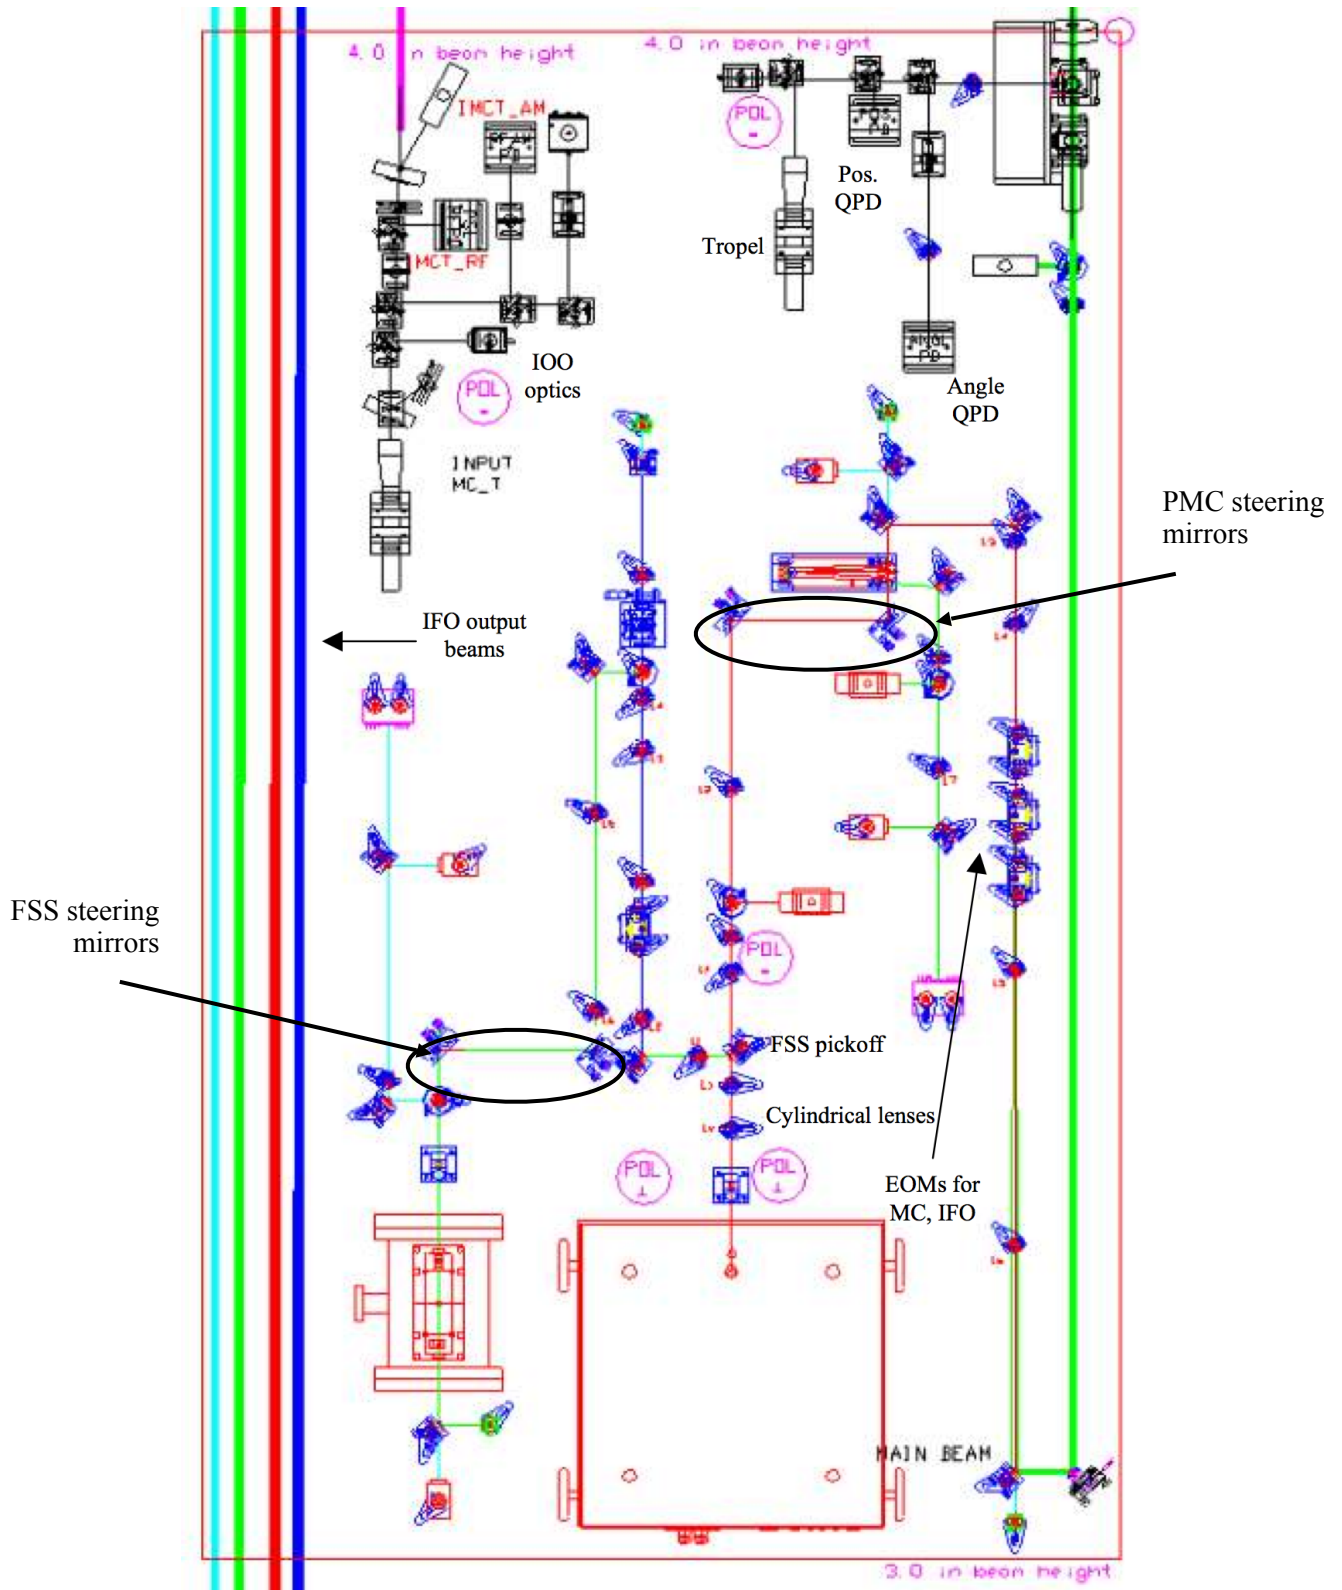

Figure 3-1: Layout of 40-meter PSL table back to Step 2 (starting the chiller), or consult a laser expert.
The 40-meter PSL is based on the same Nd:YAG Lightwave 1064 mm laser used at the main LIGO sites. The 10'x6' PSL table is located in the blue enclosure at the northwest corner of the IFO hall, with the layout shown in Figure 3-1. The 10W beam is brought to a height of three inches above the table by a periscope, and passed through a pair of cylindrical lenses to correct astigmatism. A pickoff mirror then redirects 70mW of beam to the frequency stabilization path. Pairs of mode-matching lenses are used to focus the beam into the major optical elements in each path.
The low-power beam (left half of Figure 3-1) is sent through a Pockels cell where 21.5 MHz sidebands are applied, then makes a double pass through an acousto-optic modulator (AOM) for a 160 MHz frequency shift. The beam then passes through another periscope and is locked to a suspended fixed-length reference cavity. The reflected light is read out by a tuned RF photodiode and sent to a mixer in the Frequency Stabilization Servo. The laser frequency is kept locked to the reference cavity through three actuators: a heater on the master oscillator crystal (slow), a PZT on the crystal (fast), and a phase-correcting Pockels cell downstream of the NPRO (very fast).
1. Use the FSS steering mirrors (circled in Figure 3-1) to center the low-power beam through the iris in front of the reference cavity.